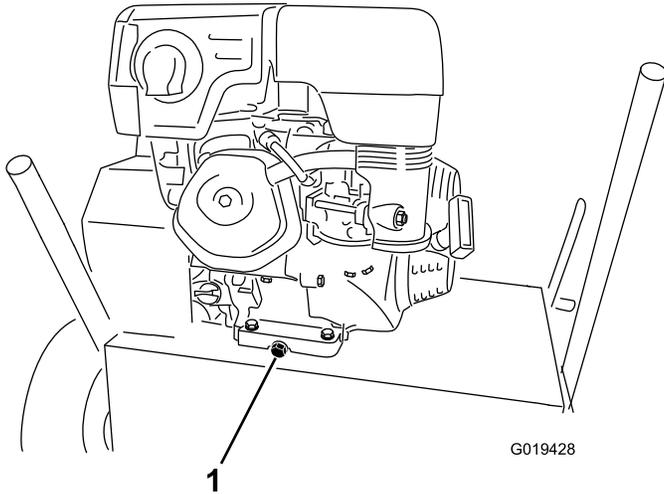

Figure 16
- Remove the drain plug (Figure 16).